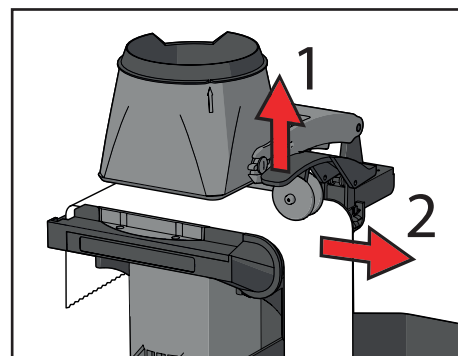

Figure 72. Remove paper from the brewer
6. Hold the roller arm up and remove the filter paper from the brewer. (see Figure 72).